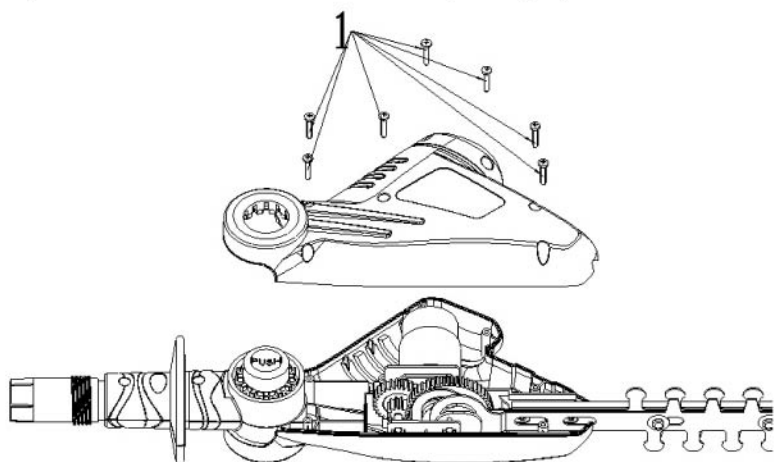

Fig. 24
Step 1: Loosen and remove the 7 screws (1) (See Fig.24)